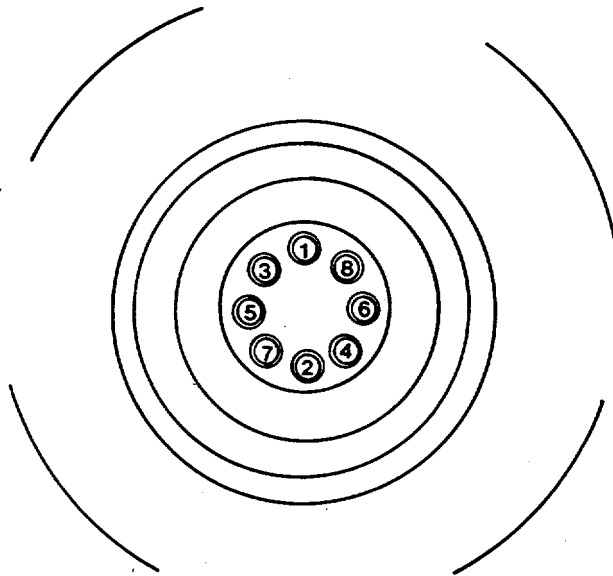

FIGURE 4-44. Tightening Sequence for Crankshaft Adapter.
- d. Align the roll pin with the receiving hole and position the adapter (8) over the guide studs to the crankshaft. Install spacer (2).
- e. Lubricate threads and heads of bolts (1) with clean engine lube oil. Install four bolts (1) 90 degrees apart. Tighten bolts alternately and evenly to pull adapter (8) on the crankshaft. Ensure adapter is flat against crankshaft.
- f. Install remaining bolts (1). Using the sequence in FIG. 4-44, torque bolts to 160 ft-lb (220 N•m). Advance bolts to 290 ft-lb (395 N•m). Apply final torque of 410 ft-lb (555 N•m).